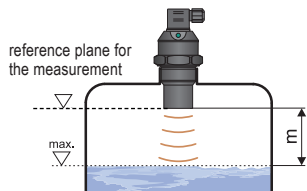

Fig. 2: Dead zone of the device
- The reference plane for the measurement is the lower edge of the transducer (Fig.2). In compliance with the measuring principle, no signals **reflected in the area directly below the device** (dead zone) can be evaluated. The dead zone (Fig. 2) determines the minimum distance possible between the device and the highest level. The minimum distances to the medium are listed in the chapter "Technical specifications".